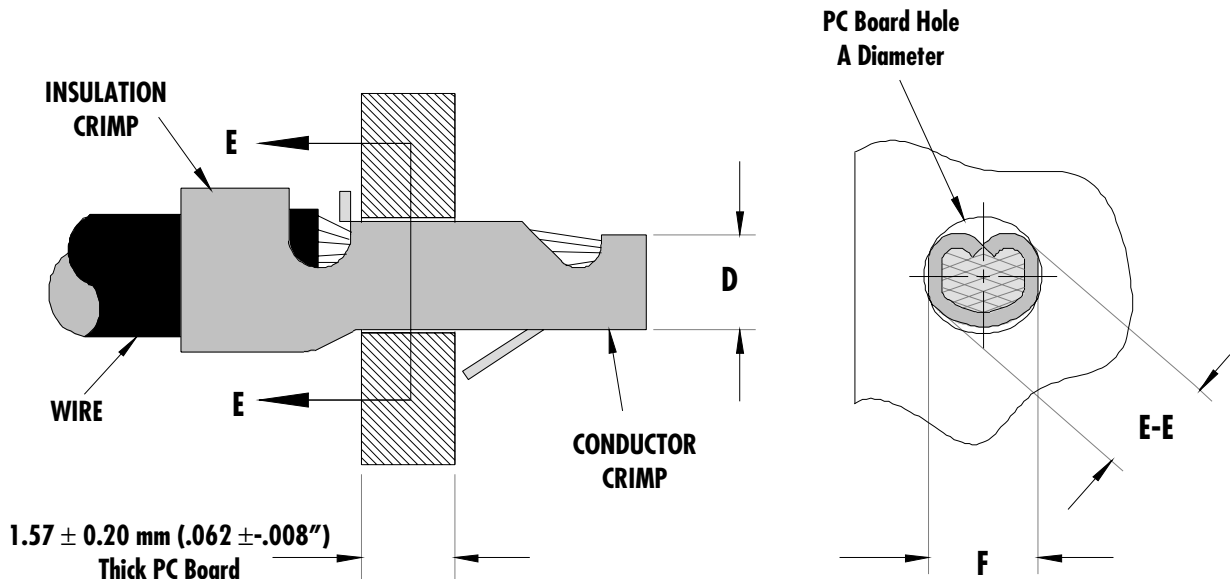

Figure 1
After crimping, the conductor profiles should measure the following (See Figure 1).
- 1 The Conductor crimp (D dimension on Figure 1) should be set at the maximum height to contain all wire strands, meet minimum pull, and fit into the PCB Hole. The insulation and barrel crimps are adjustable, by the cams (rings) on top of the Mini-Mac ram. The conductor crimp height is not adjustable. Shimming may be required of the conductor punch to optimize this for different wire types.